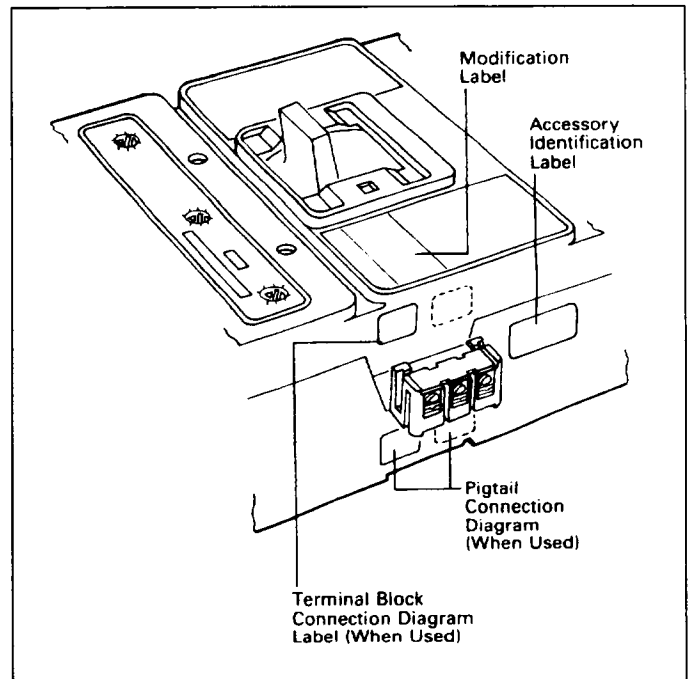

Fig. 2-4 Preferred Mounting Locations for Accessory Nameplate Labels
- 2-10. Place accessory labels (supplied with kit) on circuit breaker (see Fig. 2-4).